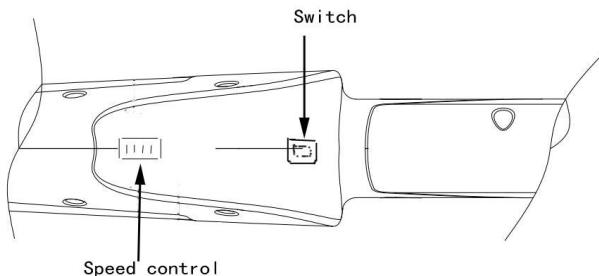

Fig .5
8. Procedures for Operated Switch (Fig .5)
9. Control speed (Fig .5)
The Governor, as shown in Fig .5, may be used to Speed control switch to adjust the speed, so as to facilitate the operations of workers and improve work quality simultaneously.